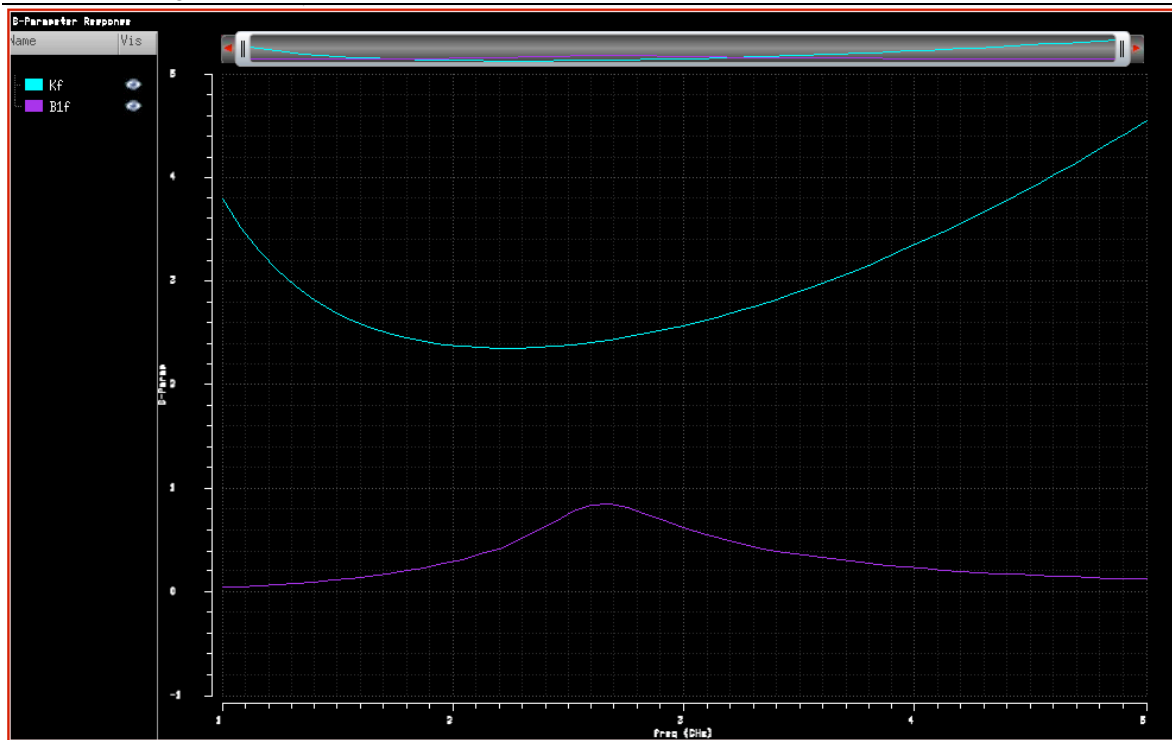

Fig. 6. Kf and Delta
- The results are shown in Fig. 6.
The Stern stability factor K and Δ can be plotted in two ways. The stability curves for K and Δ vs. frequency, Fig. 6, or plotted as load stability circle (LSB) and source stability circle (SSB) in a Smith chart.